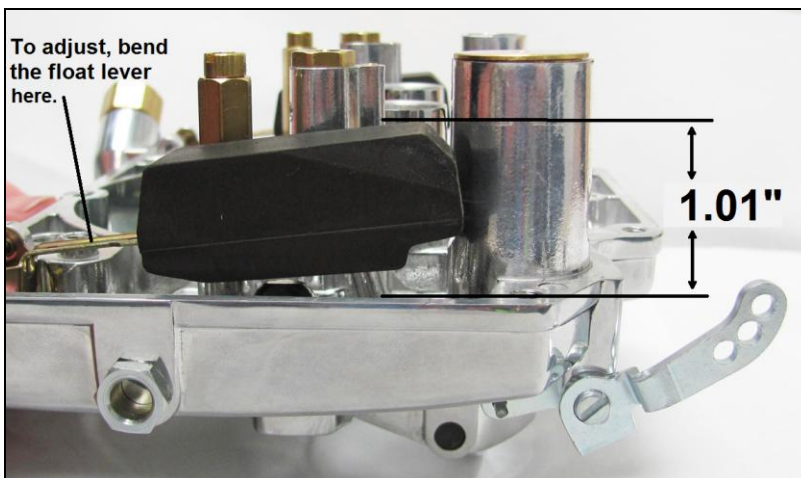

Figure 6
5. Refer to Adjustment Data for adjustment specification (Fig. 6 & 7).
1. With the air horn inverted and weight of float seating needle at the toe of the float, there should be 1.01" (25.7mm) between the top of each float and the air horn gasket surface (Fig. 6).